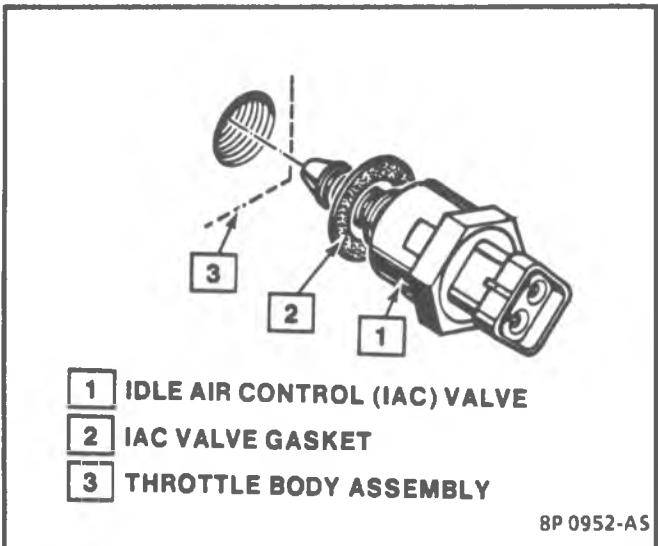

Figure 4-30 - Thread Mounted Type IAC Valve
IDLE AIR CONTROL (IAC) VALVE-TBI 220 (Figures 4-30 and 4-31)
- On thread mounted units, use a 32 mm (1 1/4") wrench (Figure 4-30).